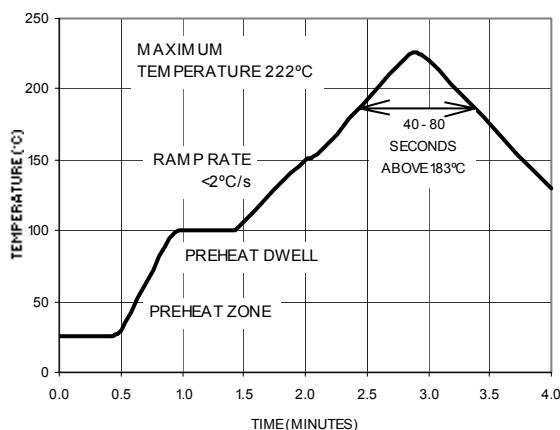

FIGURE 14: REFLOW SOLDER PROFILE
The principal techniques used for the soldering of components in surface mount technology are infrared (IR) re-flow, vapour phase re-flow and wave soldering. Typical profiles are shown in figures 14, 15 and 16. When wave soldering, the ML suppressor is attached to the circuit board by means of an adhesive. The assembly is then placed on a conveyor and run through the soldering process to contact the wave. With IR and vapour phase re-flow, the device is placed in a solder paste on a substrate. As the solder paste is heated, it re-flows and solders the unit to the board.